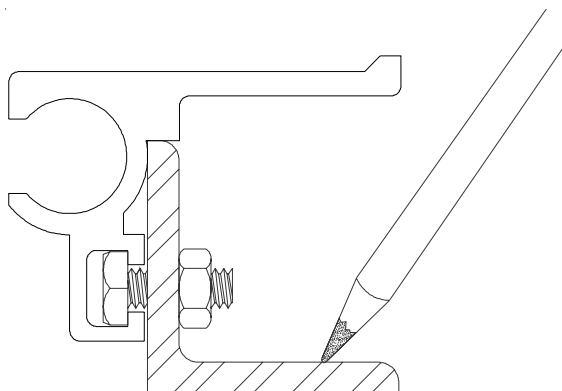

Figure 2
STEP 3. Select a base member assembly. If the anchor holes have not been pre-drilled in the base member assembly at the factory, mark the locations for the anchor holes on the steel angle (see Figure 2). Standard anchor spacing is 20" O.C. with an anchor at a nominal 3" from each end of the base member assembly. If necessary, drill the anchor holes into the